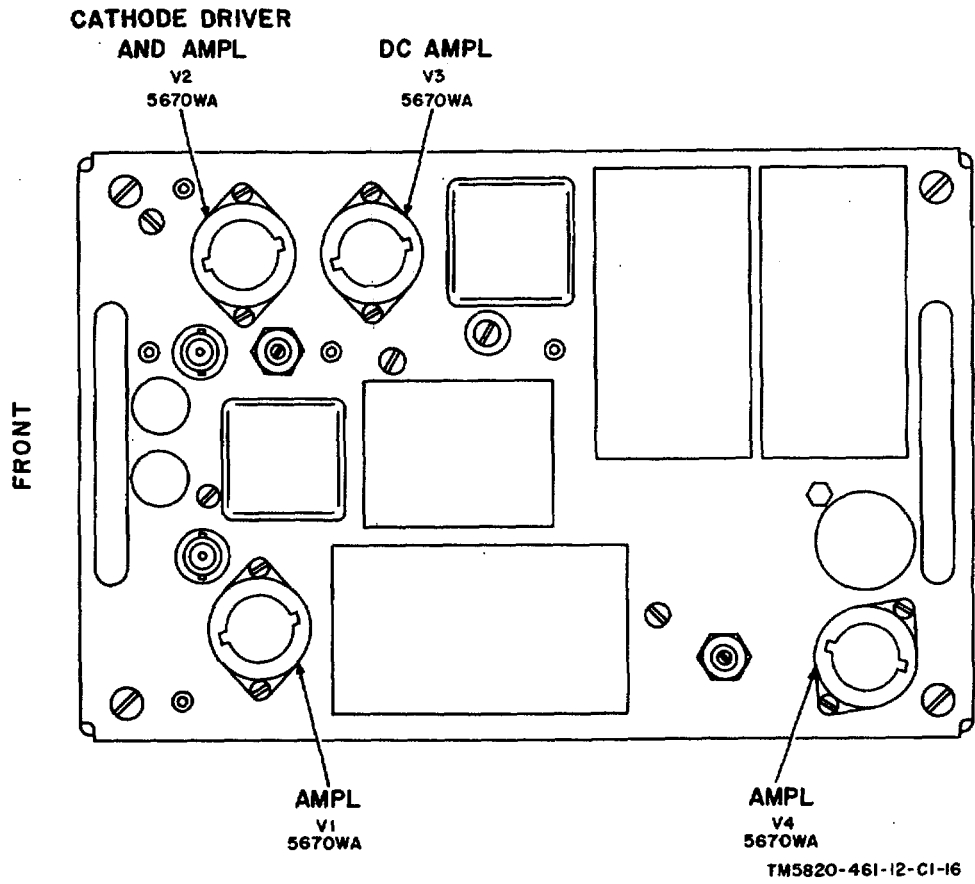

Figure 5-4. Baseband assembly 2A3 (part of T-893(P)/GRC), tube locations.
a. T-898(P)/GRC. Loosen the screws that attach the T-893 (P) /GRC to the component case, and slide the component out of the case The plug-in assembly locations in the T-893 (P)/GRC are shown in figure 5-4. The locations of tubes in the plug-in assemblies of the T-893(P)/GRC are shown in figures 5-4 through 5-6 When the defective tube is replaced, slide the component back into the case and tighten the screws.